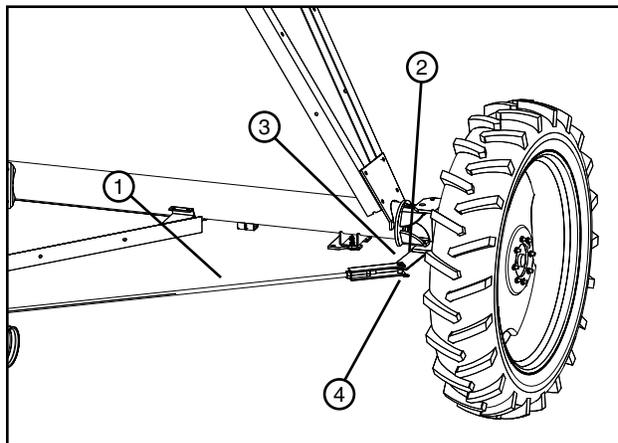

Figure 84-2 1. Tie Rod 2. Steering Arm 3. Clevis Pin 4. Hair Pin
2. Connect end of tie rod to steering arm with one clevis pin and hair pin. See Figure 84-2.